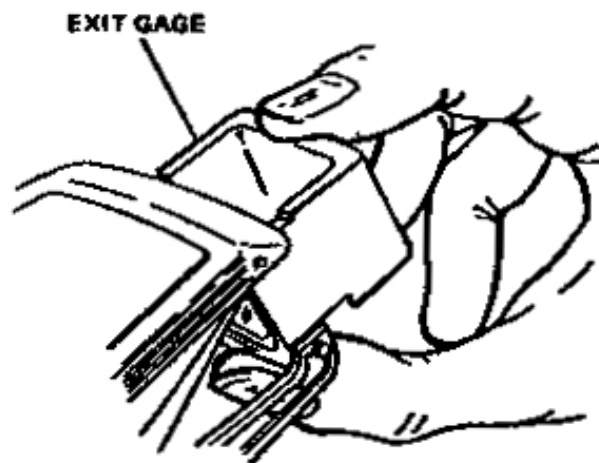

Figure 3-12 Installing the exit pupil gage
a. Mount the exit pupil gage onto the camera eye lens (Figure 3-12).
(1) Engage the left side gage rail on the eye lens. (The right side is identified by a 3/4" horizontal slot.)
(2) Slowly slide the right side in place. A distinct